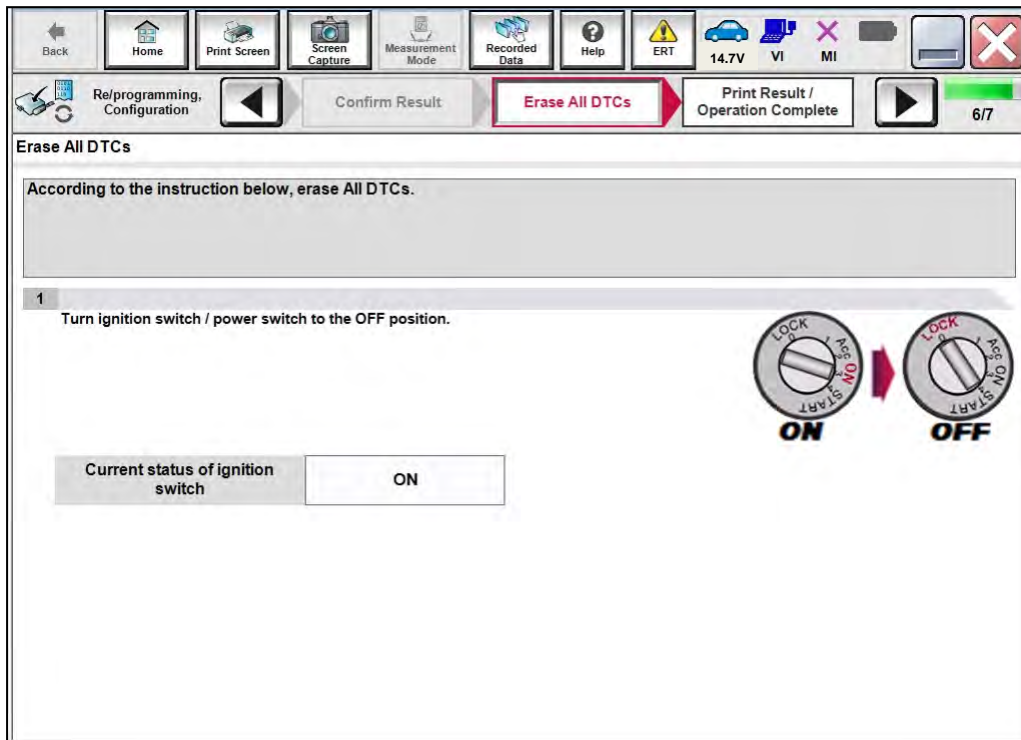
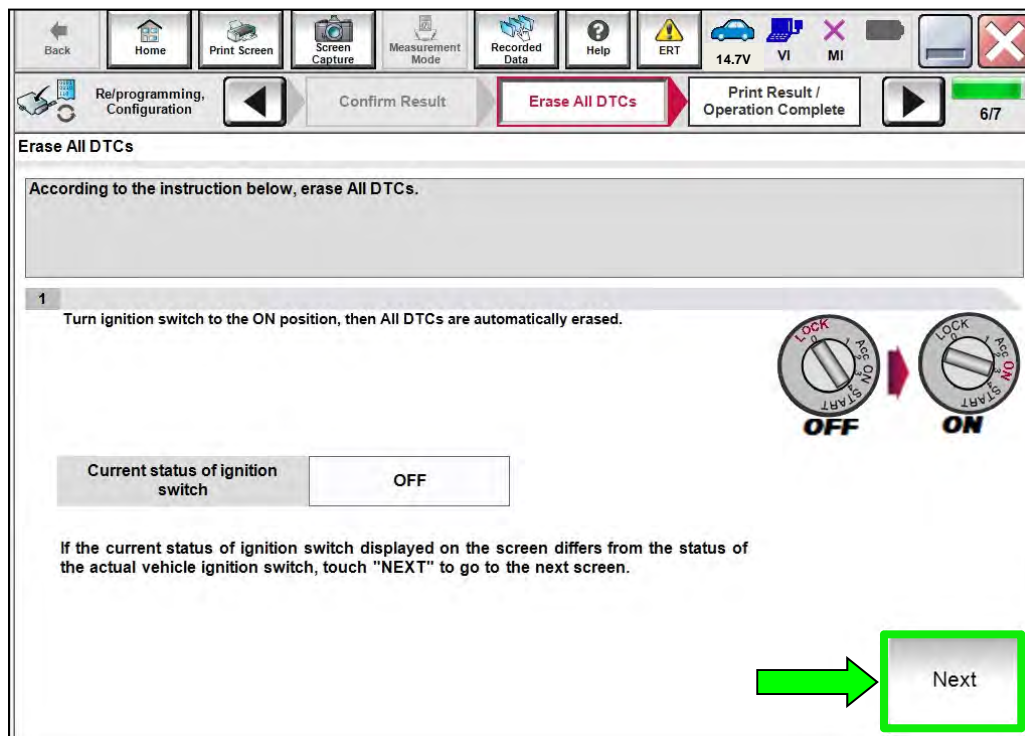

Figure 21
Figure 22
- Follow the on-screen instructions as shown in Figure 21 and Figure 22.